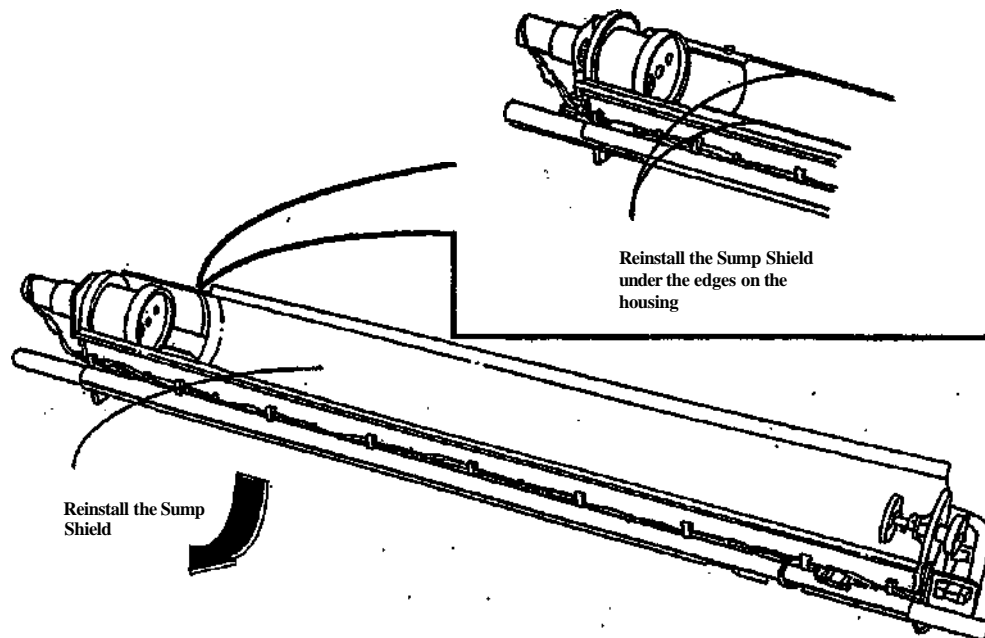

Figure 2. Reinstalling the Sump Shield in the Developer Module
1. (Figure 2): Reinstall the Sump Shield in the Developer Module.